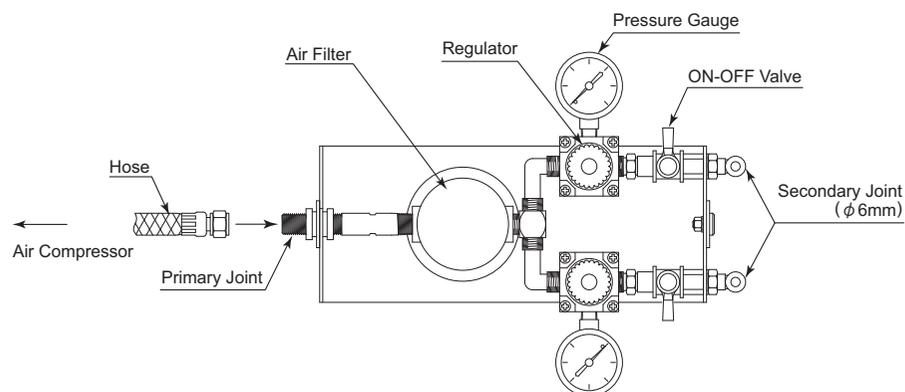

Fig. 1
- Connect the provided air hose to primary joint. (Fig. 1)
- Connect secondary joint and intake joint on the control unit with a $\phi 6\text{mm}$ air hose. (Fig. 1)